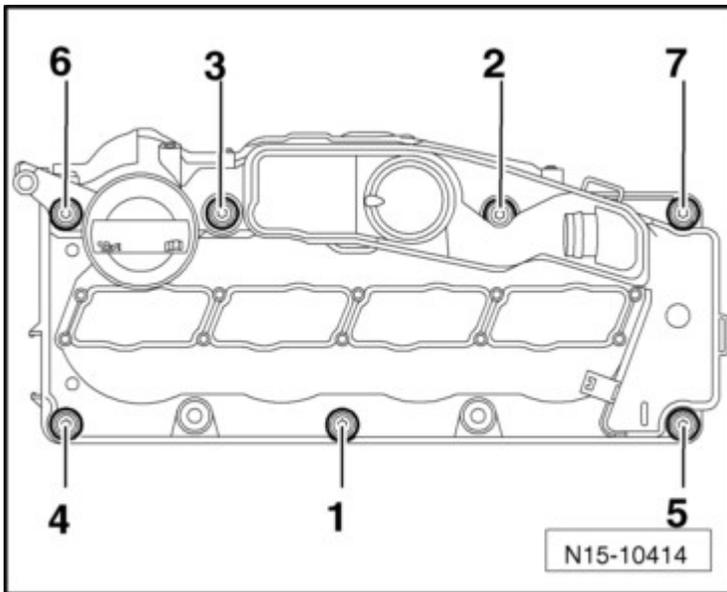

Fig. 4: Identifying Head Cover Bolts -1 Through 7- Tightening Sequence
- Tightening specification and sequence **Fig. 4**